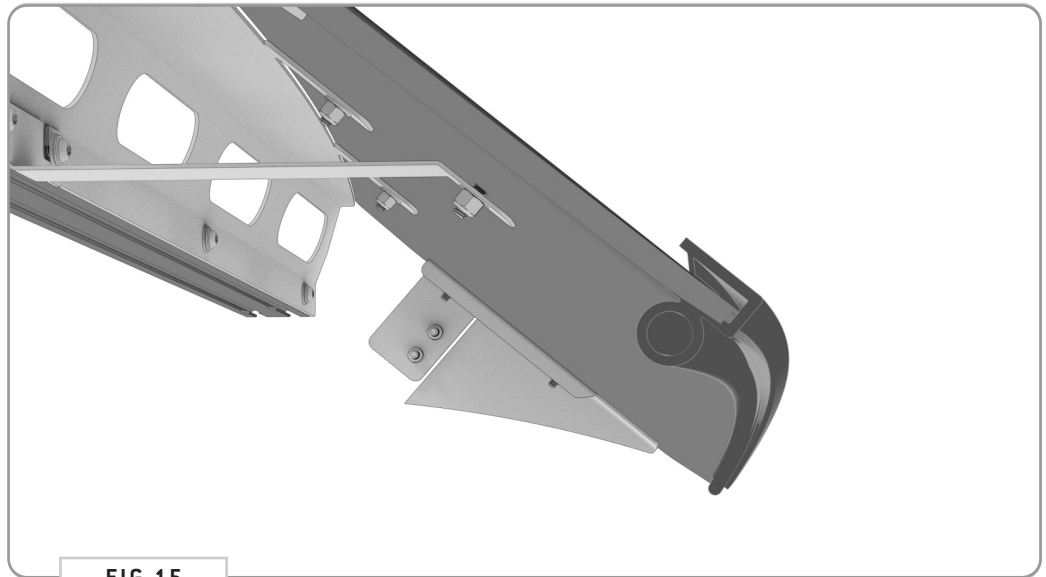

FIG 15
**4.7 Fairing Gasket Trim:** Attach the **Fairing Gasket Trim** to the **Front Fairing** in the orientation shown in **FIG 15**. Make sure the "bulbed" side is facing inward.